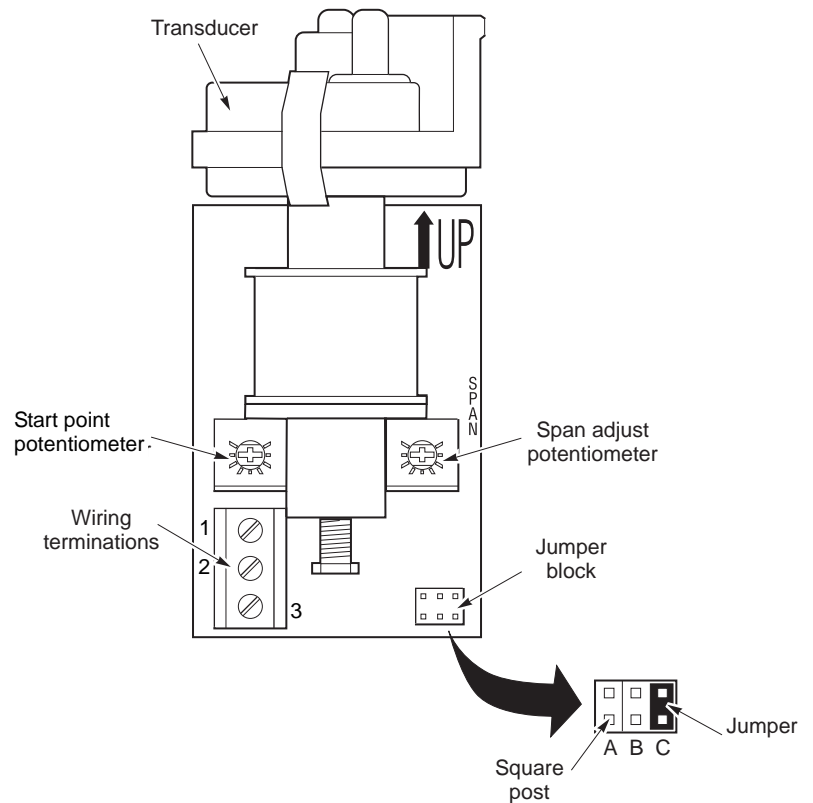

Figure-4 CP-8552 Internal View.
6. Use a small plastic wire tie to secure the wires to the strain relief tab provided on the mounting base to the left of the wiring terminations (Figure-4).
The CP-8552 has three jumper selectable input ranges. Refer to Figure-4 for jumper block detail. Make proper jumper selection as follows:
3. Place jumper over square posts on appropriate lettered block (Figure-4).
7. Branch pressure should be 3 psig (21 kPa). If not, adjust start point potentiometer (Figure-4) to obtain a 3 psig (21 kPa) output.
9. Branch pressure should be 15 psig (103 kPa). If not, adjust SPAN potentiometer (Figure-4) to obtain a 15 psig (103 kPa) output.